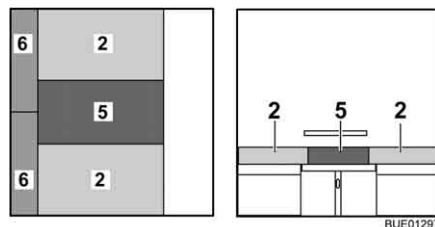

Fig. 125 After conversion
- Insert the additional cushion (Fig. 125,5) onto the table between the seat cushions.
- Insert the additional cushions (Fig. 125,6) between the seat cushions and the wall.